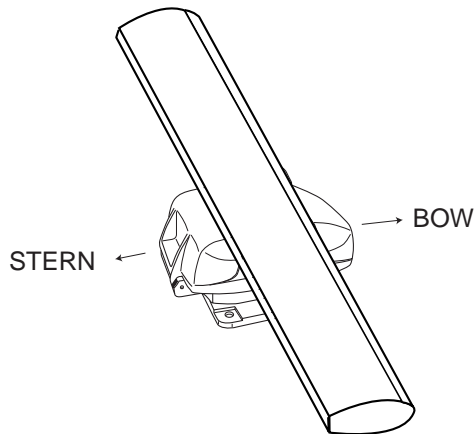

Figure 1-6 Scanner unit (Shown: XN12A)
2. Lay the scanner unit on the mounting platform, orienting it as shown in Figure 1-6.